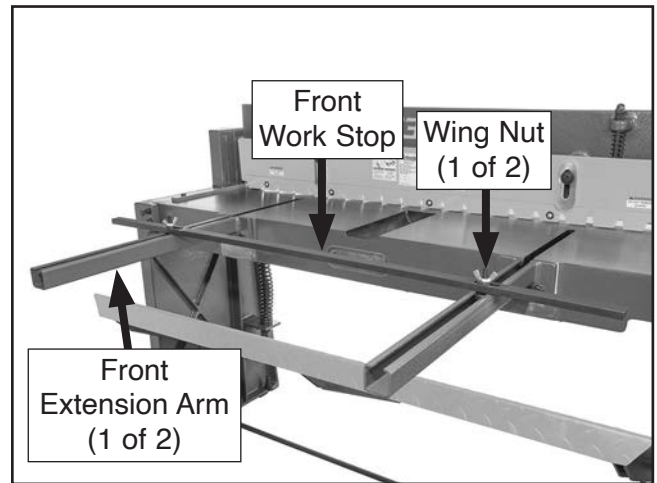

Figure 21. Front work stop components.
1. Loosen (2) front work stop wing nuts (see **Figure 21**).
2. Slide front work stop out of front extension arms to remove (see **Figure 21**).